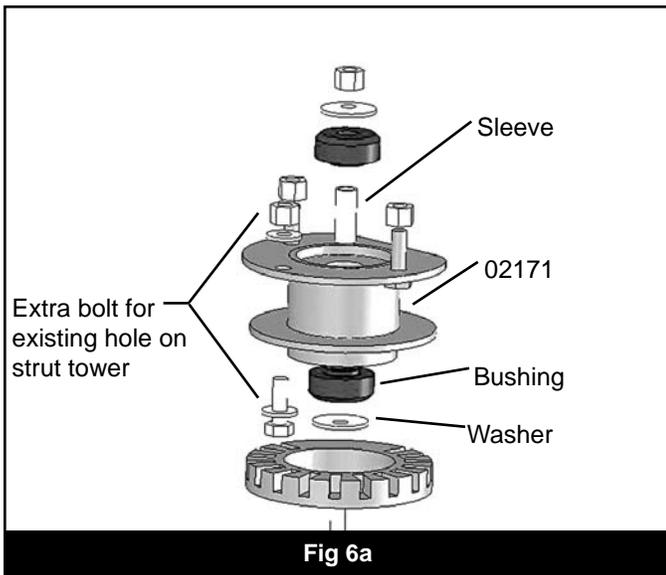

Fig 6a
12. Install one of the provided stem washers (117300007) and stem bushing (SB14BK) with sleeve (87-1). The protruding sleeve should be opposite of the stem washer. (Fig. 6a / 6b)